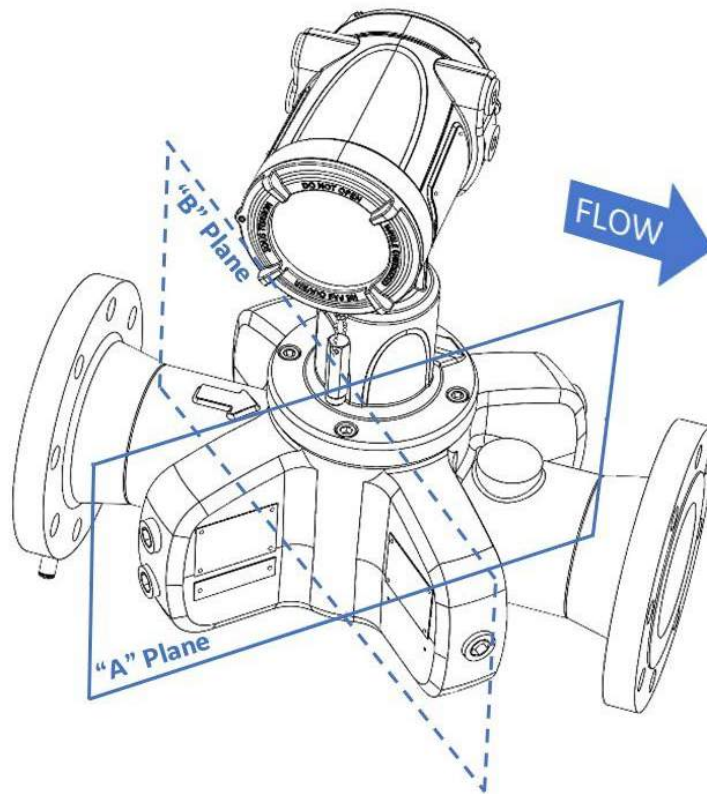
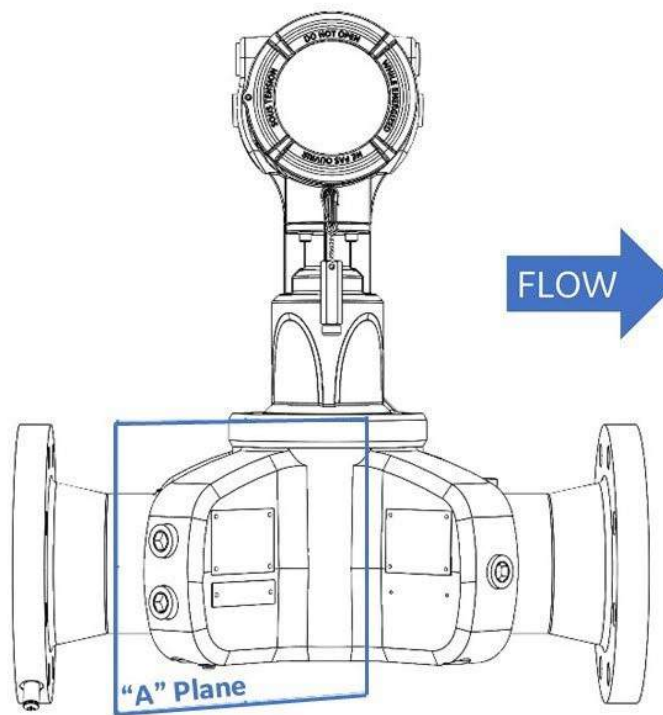
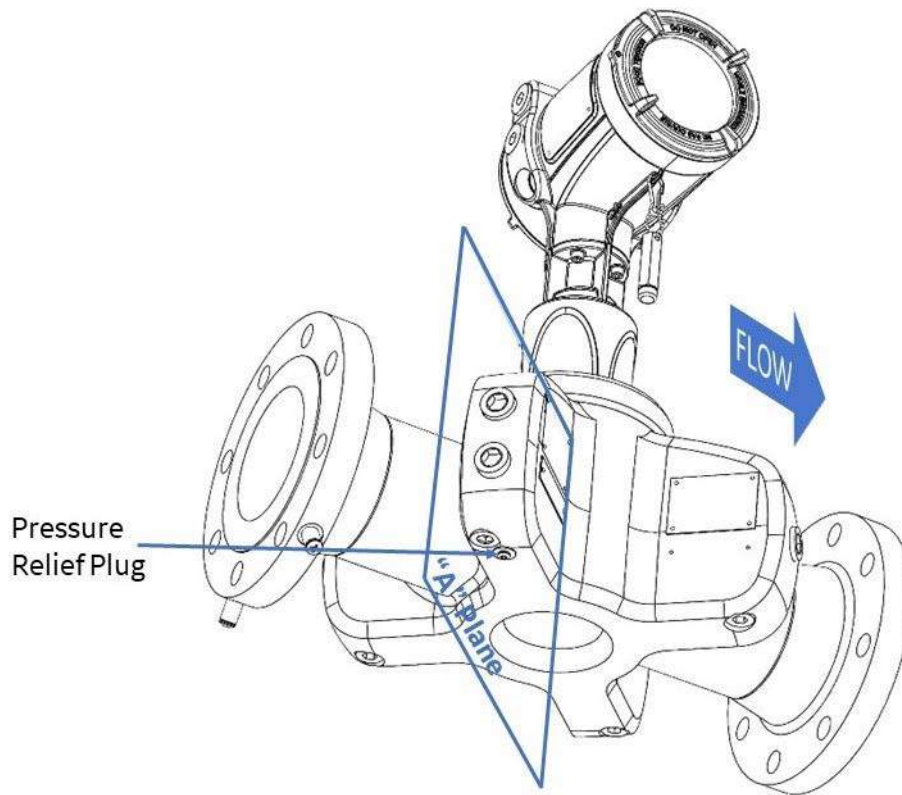

Figure 44: Upstream "A" Plane and "B" Plane Sensor Quadrants – View 1 (Top)
Figure 45: Upstream "A" Plane Sensor Quadrant – View 2 (Front)
Figure 46: Upstream "A" Plane Sensor Quadrant – View 3 (Bottom)
1. Locate the upstream "A" plane sensor quadrant. This is the plane with two transducer paths along it and is highlighted in *Figure 44*, *Figure 45*, and *Figure 46*. The opposite flow path, with only one pair of transducers, is referred to as the "B" plane sensor quadrant. On larger flowcell sizes, all transducer paths may be located on the same plane.